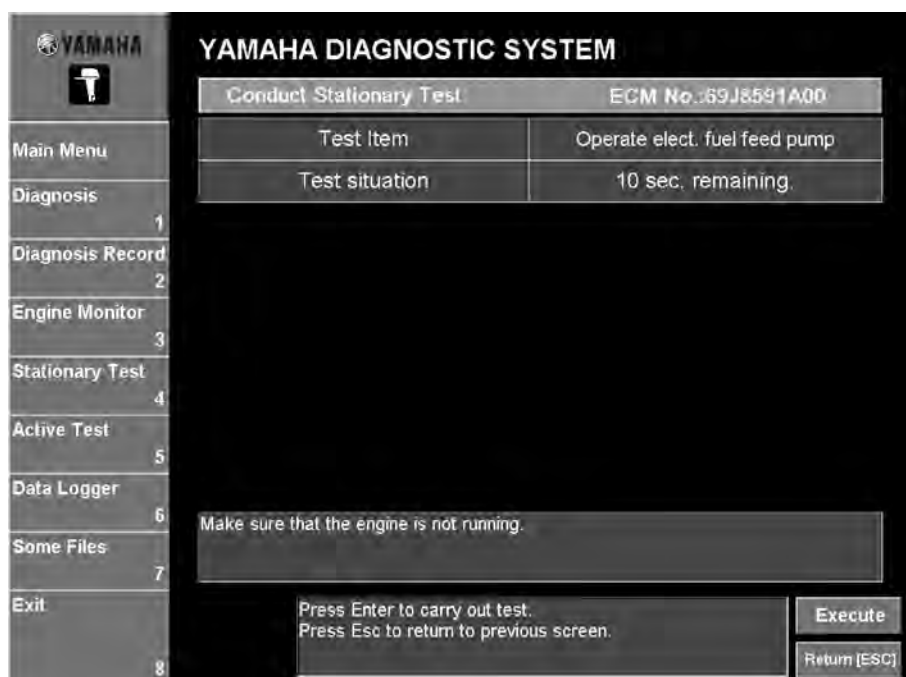

Fig. 85
2. Click the **Execute** button or press the Enter key on your keyboard. (Fig. 85)